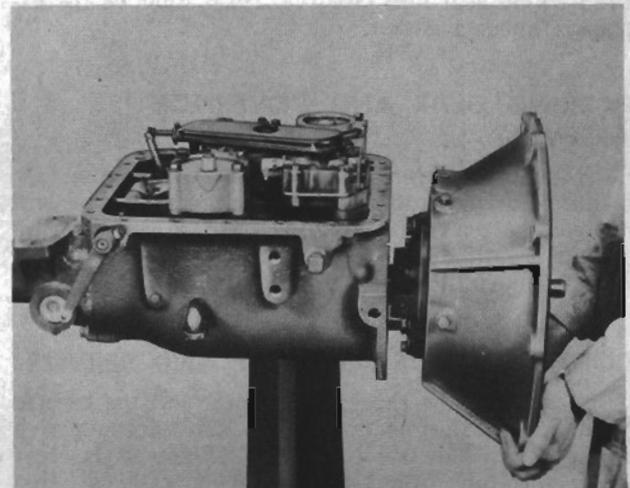

FIG. 289
288). Remove the ten (10) cap screws and lock washers that attach the bell housing to the transmission case. NOTE: One of the attaching cap screws is a special screw and is used without a lock washers and *must* be installed in the same position from which it was removed upon reassembly of the transmission. Remove the bell housing and front pump assembly by sliding toward the front of the transmission (see Fig. 289). Remove the bell housing gasket.